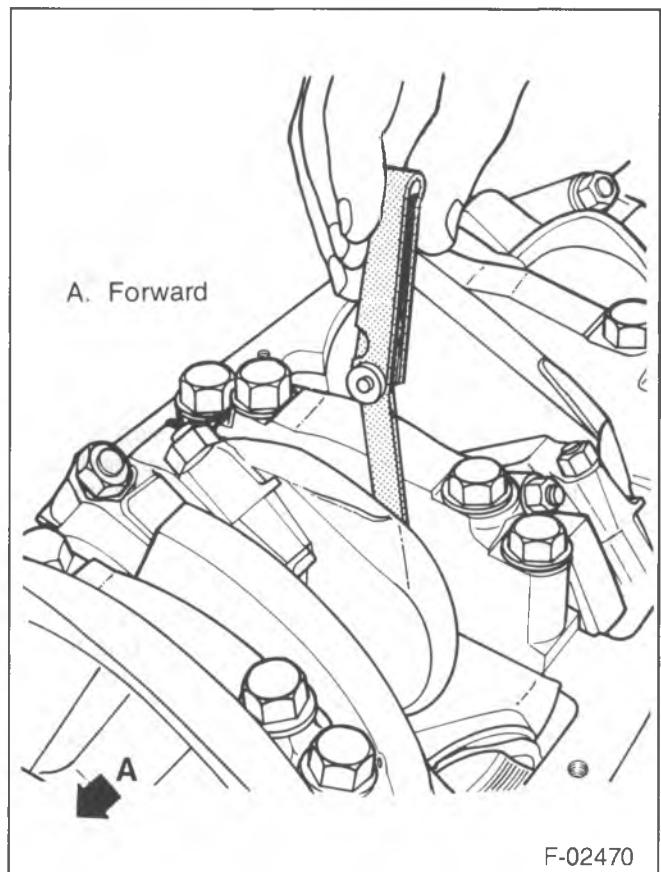

Figure 33—Measuring Crankshaft End Play
Measure (Figure 33)
- With the crankshaft forced forward, measure at the front end of the number 3 main bearing with a feeler gage (figure 33). The proper clearance is 0.10-0.25 mm.